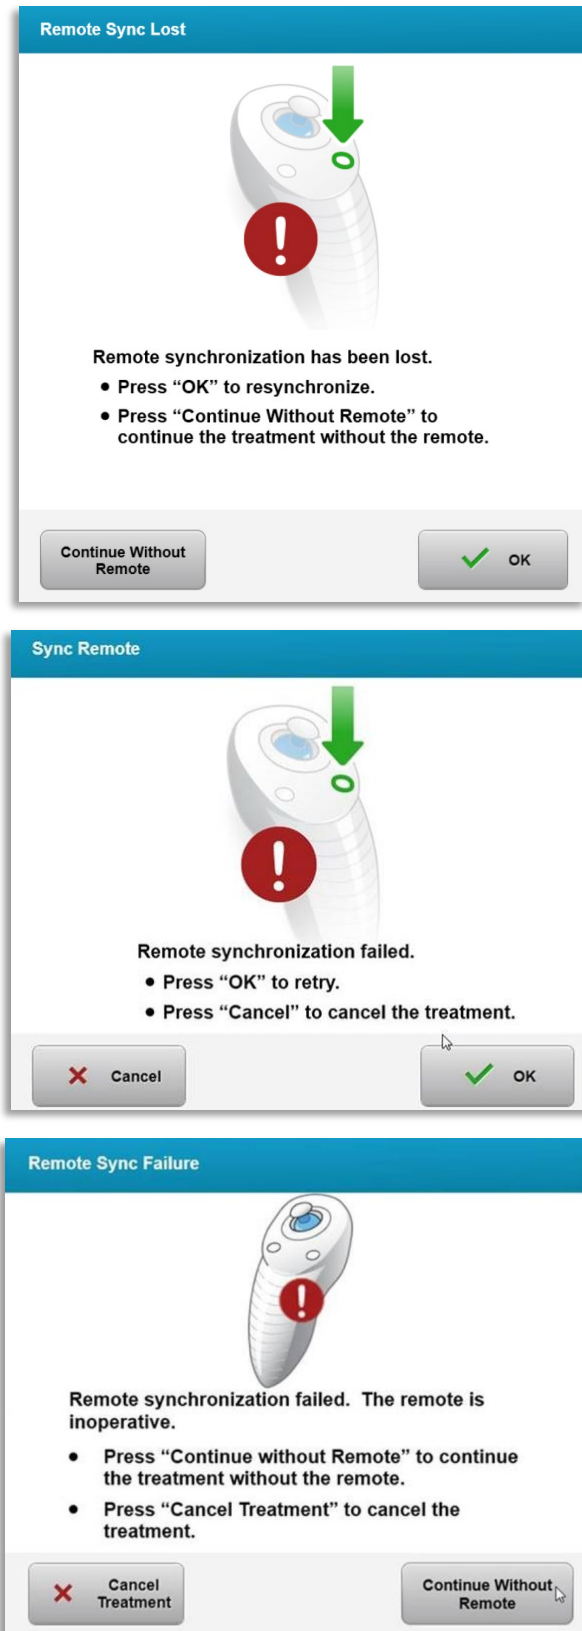

Figure 4-2. Alignment Remote Lost Sync – Original Remote
- Figure 4.1 depicts onscreen guidance for KXL Systems using the Original Remote; Figure 4.2 depicts onscreen guidance for KXL Systems using the Updated Remote.